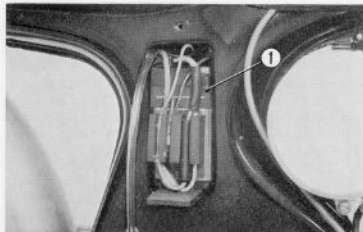

Fig. 5.35 Battery
- a. Remove the battery box, disconnect the battery cable from the battery, unfasten the battery band and then remove the battery. (Fig. 5.35)